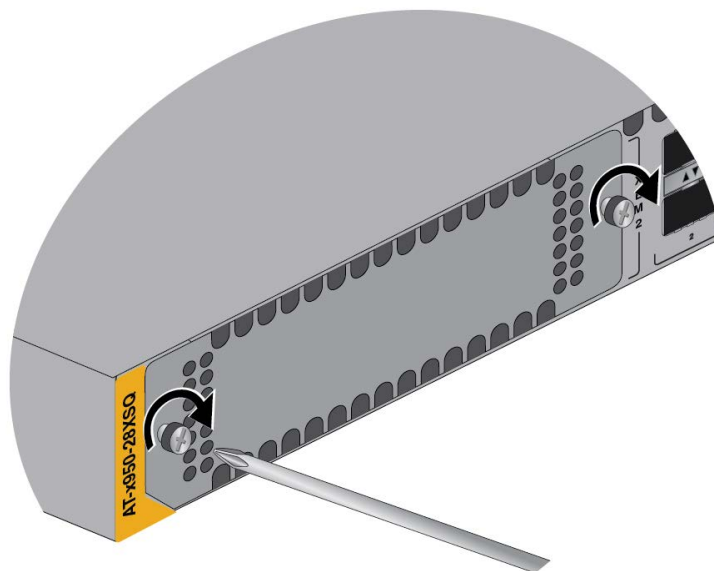

Figure 129. Tightening the Two Screws on the Line Card Blank Panel
10. Tighten the two screws to secure it to the switch. Refer to Figure 129.